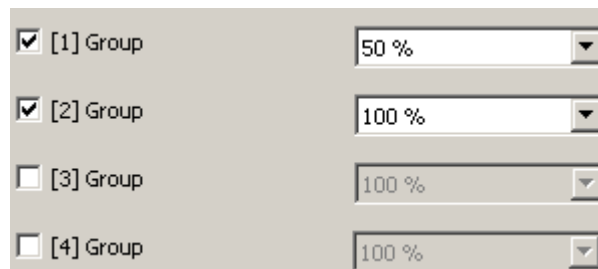

Figure 55: Example of a group assignment to an effect step
Groups and single devices can be assigned to an effect step without restrictions. In addition, it is possible to assign created scenes. Each group, each single device and each scene can be assigned independently by activating the checkbox in front of the group or single device name or the scene name in the configuration of the effect steps (figure 55). Groups, single devices and scenes, whose checkboxes are not activated, are not assigned to the effect step. Any non-created groups, single devices or scenes of the DALI Gateway are greyed out and thus cannot be edited.
- In the parameter node "Effects -> [x] Effect name -> [y] Step" (x = 1...16 / y = 1...15), specify the necessary brightness value for each assigned DALI group, each assigned single device and each assigned scene (figure 55).